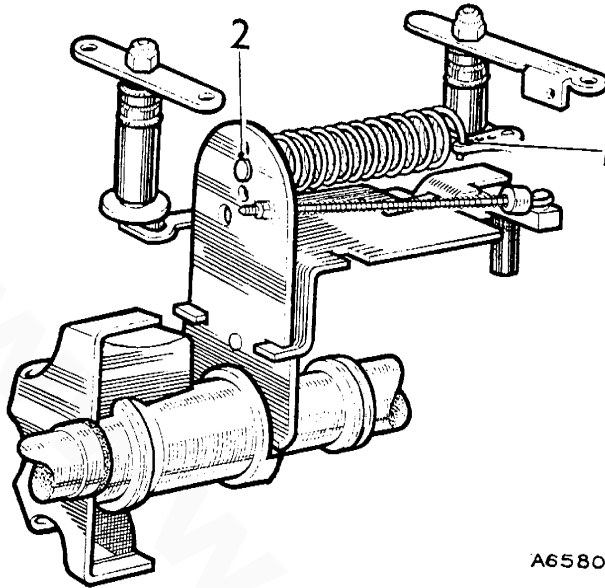

Fig. C.14
- (66) Locate the spring guide in hole No. 2 in the governor arm (see Fig. C.14) and connect the governor spring to the guide.
- (67) Insert the plain end of the shut-off bar into the slot in the control bracket and position the shut-off bar under the tab of the control cover locking washer.
- (68) Using protection cap 18G 654, fit new lower 'O' rings to the shut-off and throttle shafts. Fit a new upper 'O' ring to each shaft, using protection cap 18G 665, and pack the groove between the 'O' rings on each shaft with Shell Alvania No. 2 grease.
- (69) Press the shut-off shaft into its bore in the control cover, positioning the eccentric peg close to the edge of the control cover and projecting slightly from the joint face.
- (70) Place a new control cover joint washer in position on the pump housing, engaging the tabs with the slots under the keep plate. To ensure sealing, this joint washer should be soaked in Shell Calibration Fluid 'C' before assembly.
- (71) Connect the free end of the governor spring to No. 1 hole in the throttle shaft link (see Fig. C.14) and press the throttle shaft into its bore in the control cover. Place the control cover in position on its studs, ensuring that the shut-off peg engages the shut-off bar. Pull the shut-off shaft fully home as the control cover is lowered onto the pump housing.
- (72) Fit new sealing washers to the control cover studs, and screw on the stud nuts to the torque figure in 'GENERAL DATA'.
- (73) Place the dust caps on the throttle and shut-off shafts, fit the throttle arm and shut-off lever to their shafts and secure them in position with their nuts and washers.
- (74) Refit the inspection cover to the side of the pump housing and refit the quill shaft.